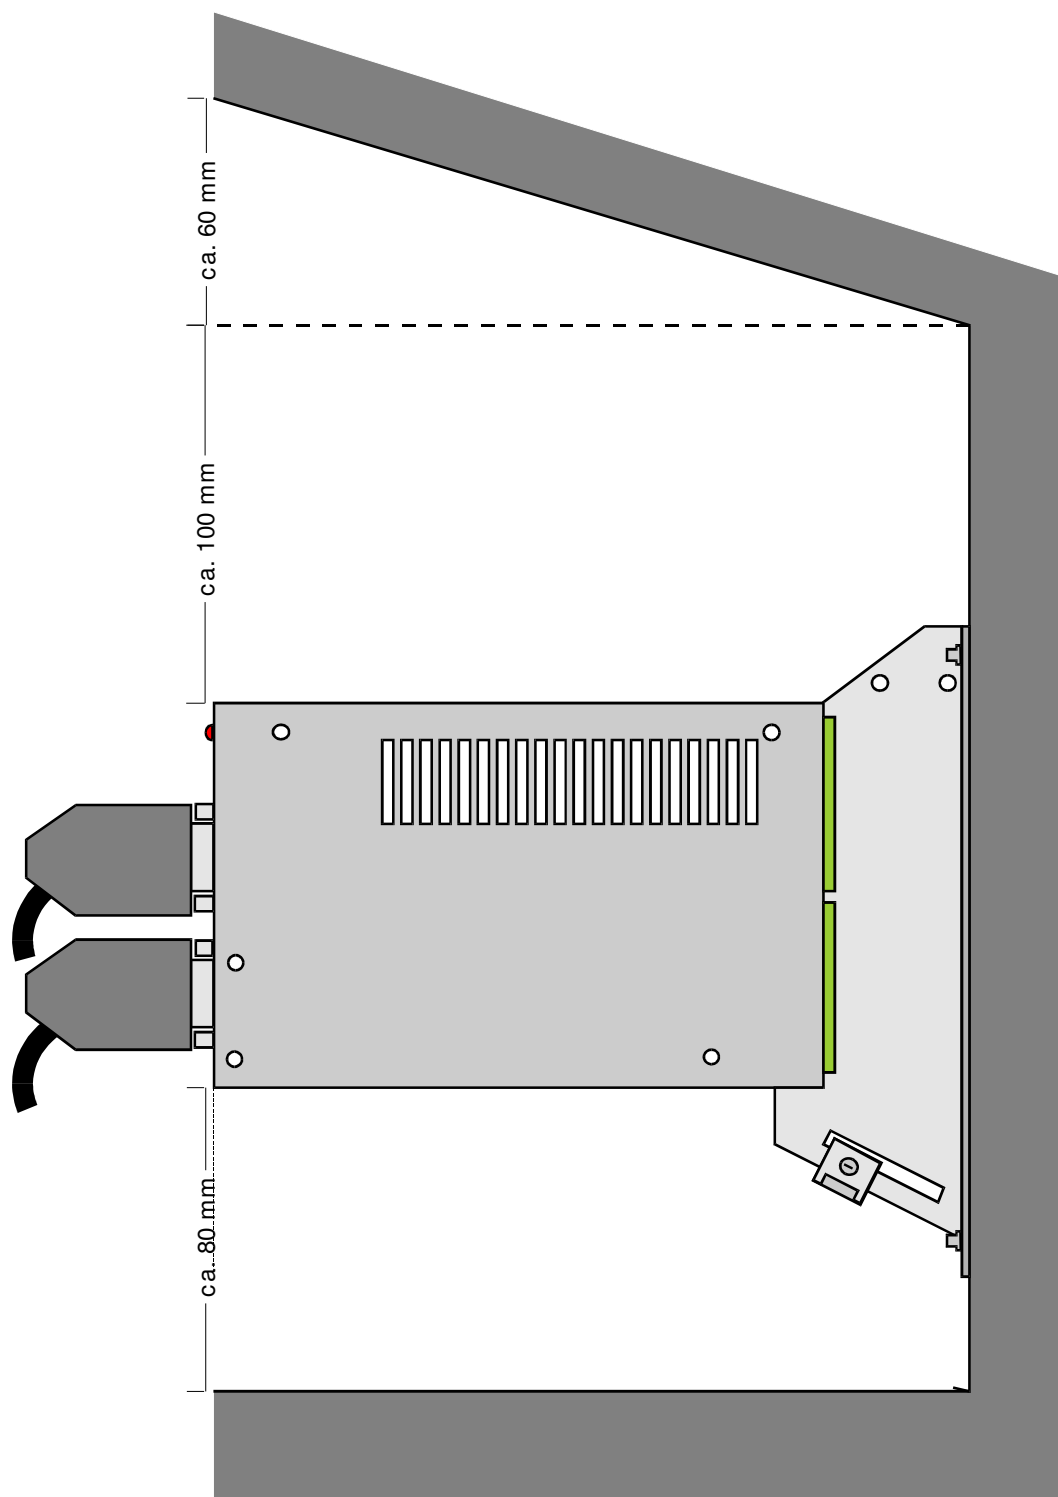

Figure 37: Minimum clearance distances of RBD-S with wall mounting
- ❖ Try to build in free space – leave enough free space around the device, see Figure 37.
When mounting of the controller the minimum distances must be considered in accordance with Figure 37 to give the best cooling of the power stage of the servo position controller RBD-S. Side clearance of the device must be a minimum distance of **10 mm** for good cooling.